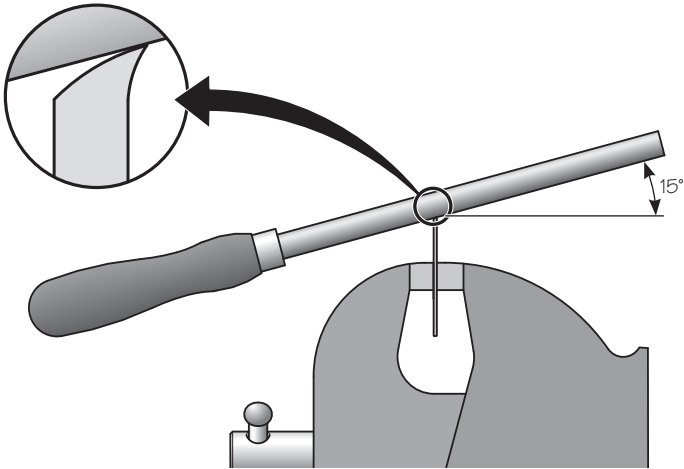

Figure 6: Burnishing.
Step 3 – Burnishing: With the blade held firmly in a vise, use a burnisher (the Veritas Tri-Burnisher 05K32.01 is well suited) to create a hook as shown in **Figure 6**. Use three or four even firm strokes across the entire edge of the blade at the same angle as the bevel. Raise the burnisher handle slightly and take three or four more strokes. Finish by taking three or four strokes with the burnisher 15° from horizontal as shown in **Figure 6**. The first few times you do this, sight against a reference tool such as a sliding bevel or engineer’s protractor set to the desired angle.